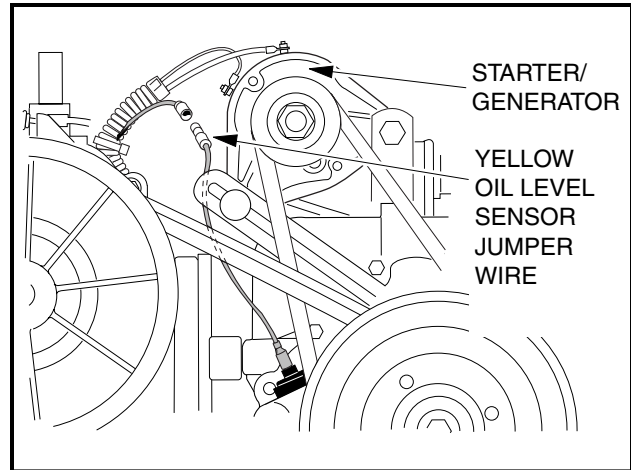

Figure 16-19 Oil Level Sensor Jumper Wire
- 5.14. Disconnect the engine oil level sensor wire (18-gauge yellow) at the bullet connector just to the rear of the starter/generator (**Figure 16-19, Page 16-10**).